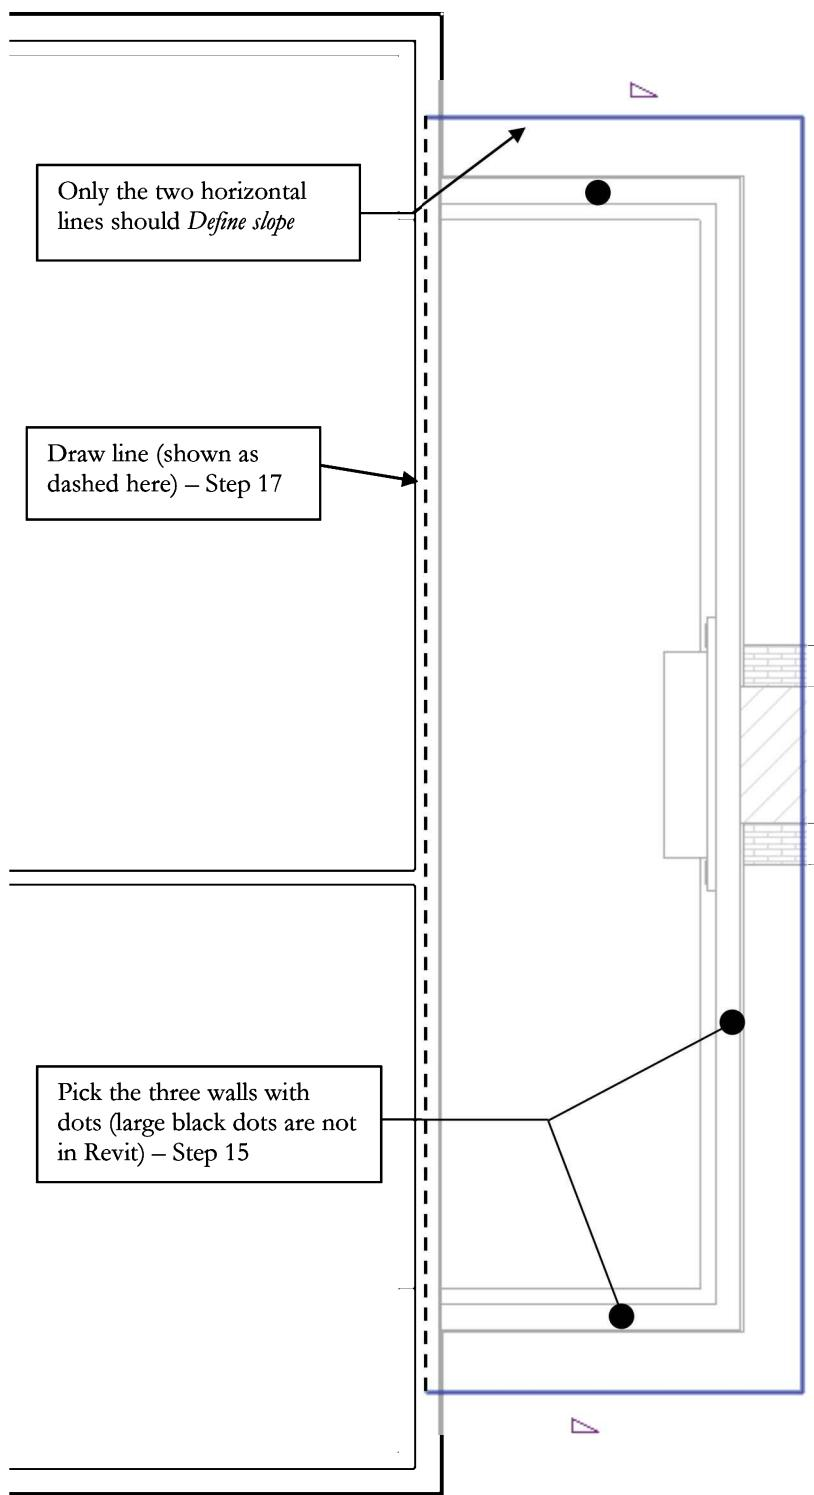

FIGURE 8-3.5 Low Roof plan view; adding roof
15. You are now prompted to select exterior walls to define the footprint. Select ONLY the three wall segments that define the *Living Room* area per Figure 8-3.5. Only the horizontal sketch lines are to be *Defines slope* as shown.
You will notice in Figure 8-3.5 that there is one section that still needs to be sketched to close the footprint or outline.
17. Draw the line to create a complete rectangle (i.e., footprint), making sure you use *Snaps* to accurately snap to the endpoints of the lines already present (Figure 8-3.5). Use *Trim* if needed. *Defines Slope* should be off here.